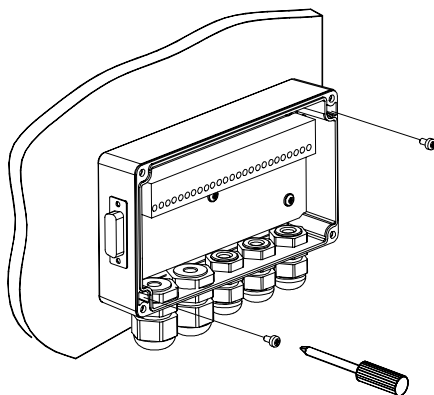

Figure 4 - Mounting DP1200
DP1200 can be installed to operate in different positions. The two screw holes inside the housing of the decoder are for mechanical fixture (Figure 4).
- 2) Align the DP1200 and insert the two self-threading screws and screw them into the panel until tight (see Figure 4).